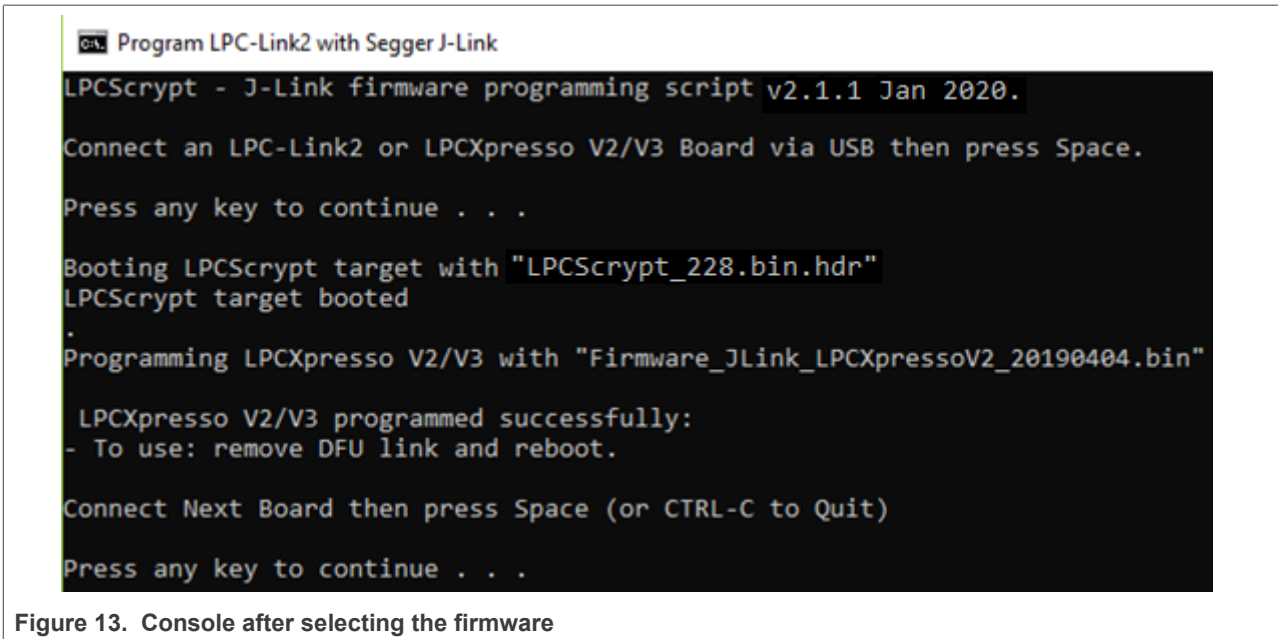

Figure 13. Console after selecting the firmware
- 8. Verify once you select the firmware (in this case J-Link), LPCScript. The console appears as shown in Figure 13.